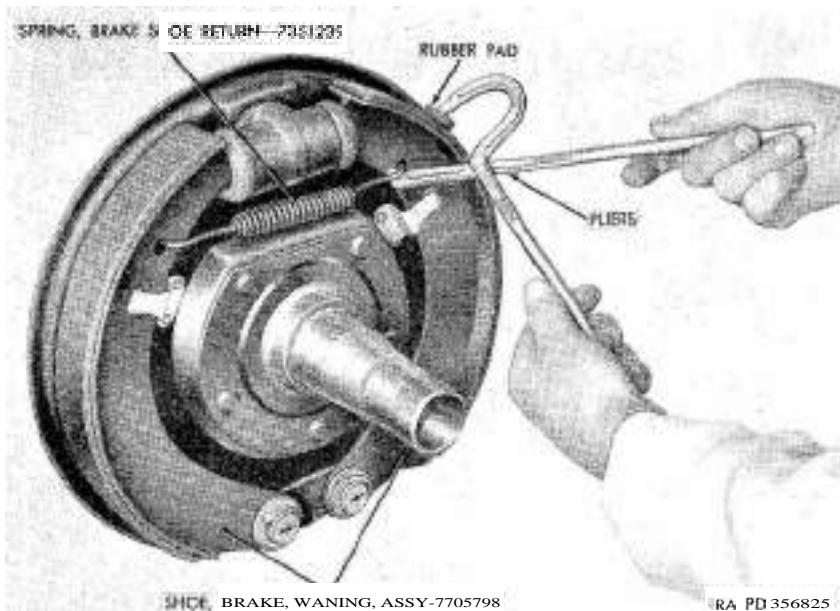

Figure 149. Removing brake shoe return spring with brake spring pliers.
- (1) Remove brake shoe return spring (W) with pliers (fig. 149).
Note. A tough rubber pad must be used between pliers (fig. 149) and brake lining to prevent damage to lining. A suitable piece of rubber can be cut from a discarded tire.
- (1) Position brake shoe with lining assemblies (Q) on brake support with pin assemblies (P).
- (2) Place anchor bolt "C" washers (T and V) on each anchor bolt (U), followed by anchor bolt oil washer retainers
- (S) and anchor bolt oil washers (R). Saturate washers with engine oil. Insert anchor bolts through brake shoes and brake support. Install $5/8$ -inch lock washers (N) and $\frac{5}{16}$ -18NF nuts (M) on anchor bolts.
- (3) Make certain upper ends of brake shoes are properly engaged in slots in boots at each end of wheel cylinder.
- (4) Engage brake shoe return spring (W) in hole at upper end of one of the brake shoes and finish installation in other brake shoe with brake spring pliers (fig. 149).